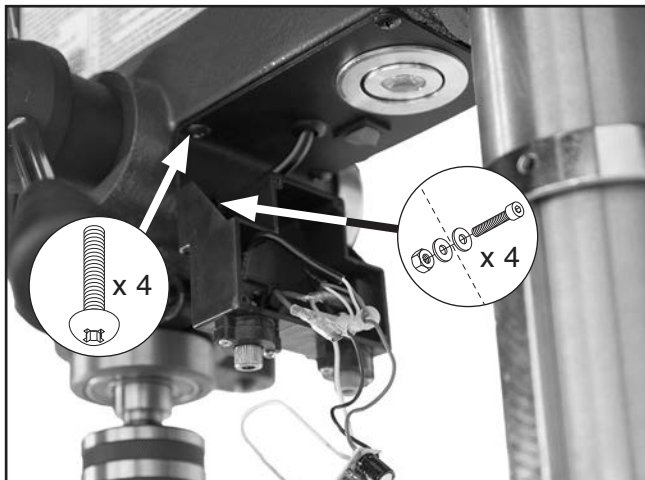

Figure 81. Location of laser module electrical box and LED assembly fasteners.
4. Remove (4) cap screws, (8) flat washers, and (4) hex nuts shown in **Figure 81** to remove laser module electrical box from LED assembly. Set electrical box aside for now.
5. Remove (4) Phillips head screws to remove LED assembly from headstock (see **Figure 81**). Allow LED assembly to hang from headstock for now.